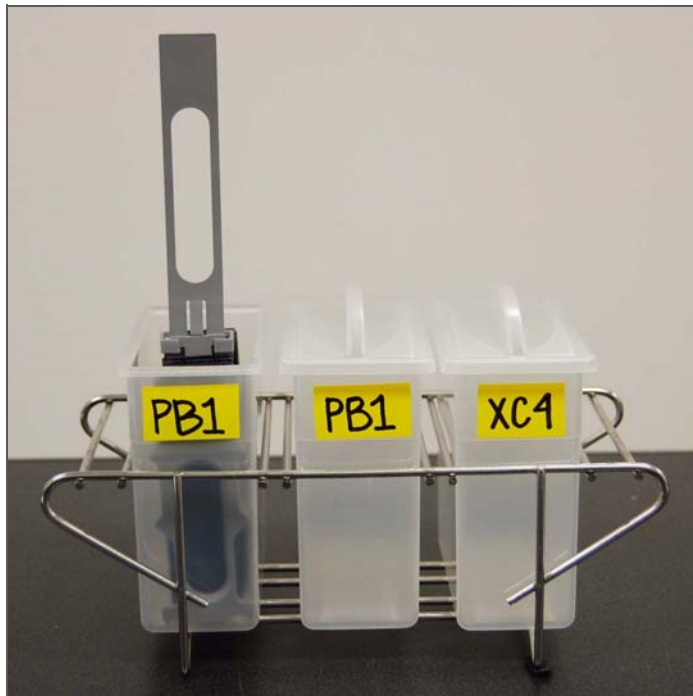

Figure 65 Washing BeadChips in First PB1 Wash Dish
11. Once all BeadChips are in the wash rack, move the wash rack up and down ten times, breaking the surface of the PB1 with gentle, slow agitation (Figure 65).